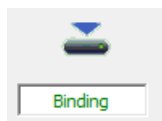

FIG. 43 AMX Device Binding Wizard dialog - Status Column
7. As the Binding Process is performed, the message in the Status column changes from "Unbound" to "Attempting To Bind Device", then to "Device Has Been Bound", then to "Setting Description", then "Changing Device ID", and finally to "Rebooting Device". Also, the Binding icon indicates that the process is active (FIG. 43):